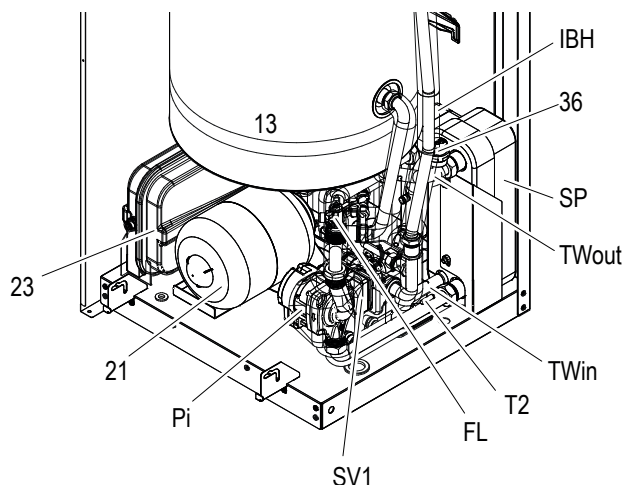
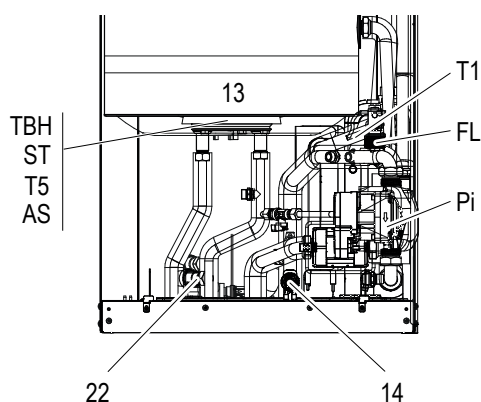
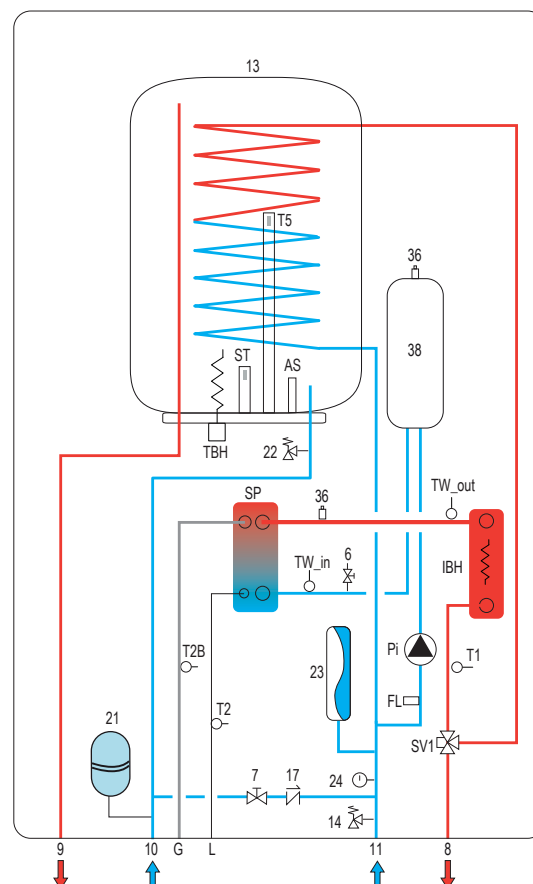
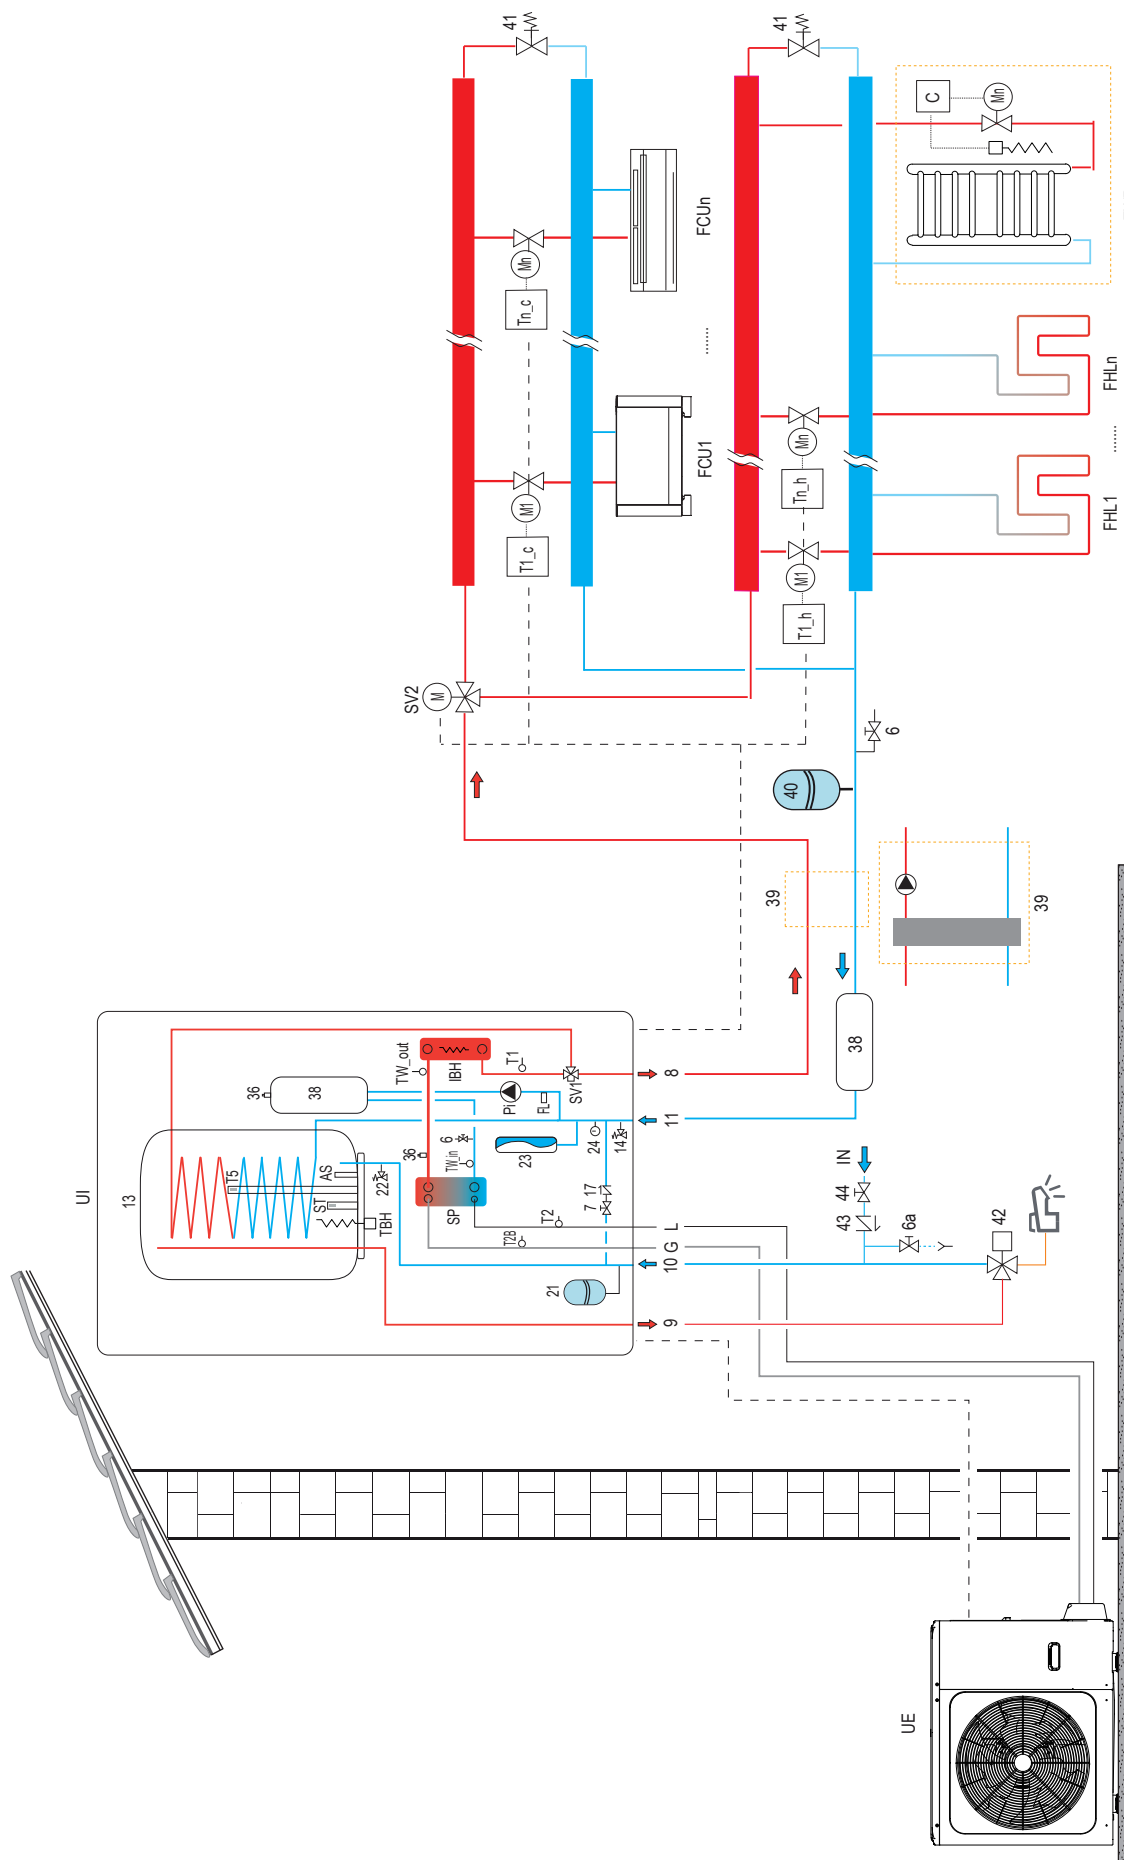

fig. 4 - General view
fig. 5 - Description of components - front view (without ref 21 and 23)
fig. 6 - Indoor unit hydraulic diagram
fig. 7 - Example diagram of the system
LEGEND ("fig. 4 - General view", "fig. 5 - Description of components - front view (without ref 21 and 23)", "fig. 6 - Indoor unit hydraulic diagram", "fig. 7 - Example diagram of the system")
For the legend of fig. 7 refer to the previous page.